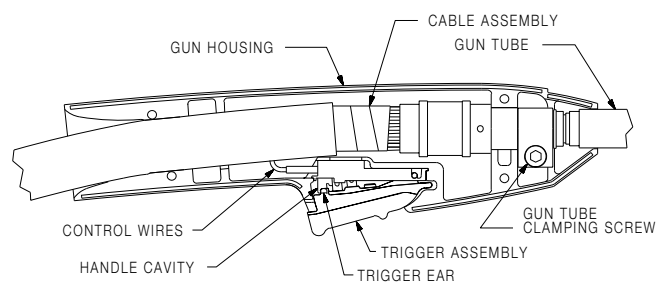

Figure 5
- i. Assemble cable in left side of gun handle. Assemble trigger into the proper handle cavity. Assemble right side of gun handle and tighten the four screws that hold the handle together. Refer to Figure 5. **NOTE: Be sure that protruded trigger ears are placed in cavities of both handles.**